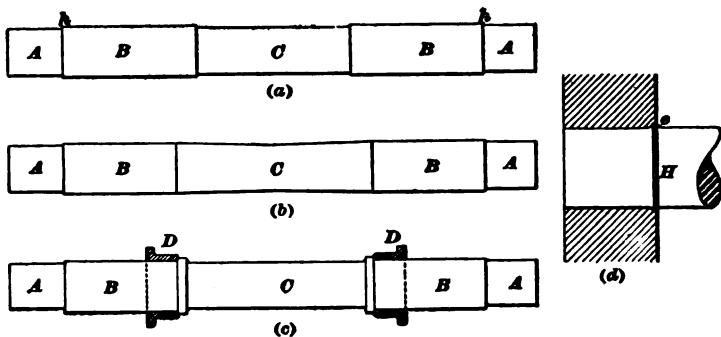

FIG. 22.
**72. Axles.**—The driving axles are made of hammered iron or steel. In Fig. 22 are shown four different styles used in locomotive practice. The part *A* is called the *wheel fit*,